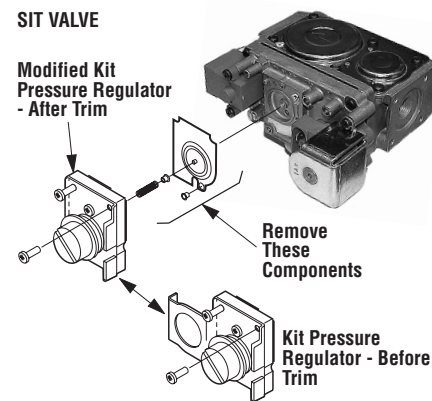

Figure 8
Step 11. SIT Systems - See **Figure 8**. Using a Torx T20, or a flat screwdriver, remove and discard the three pressure regulator mounting screws. Remove the pressure regulator, spring, poppet, diaphragm and bushing. Discard all removed components.